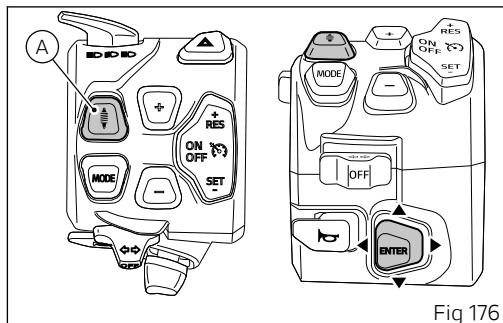

Fig 176
- Press button (A, Fig 176) to activate the specific menu.